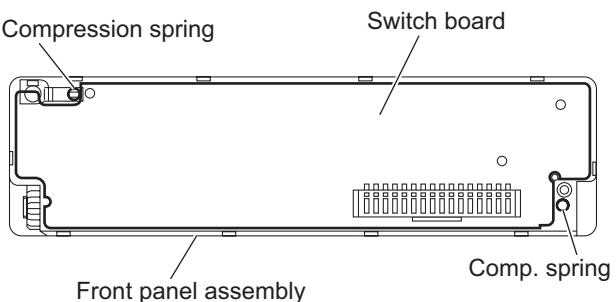

Fig.12
- (3) Release the joint **i**, and take out the switch board. (See Fig.12)
When removing the rear cover assembly and switch board, be careful not to lose the compression spring and comp. spring. (See Fig.12)